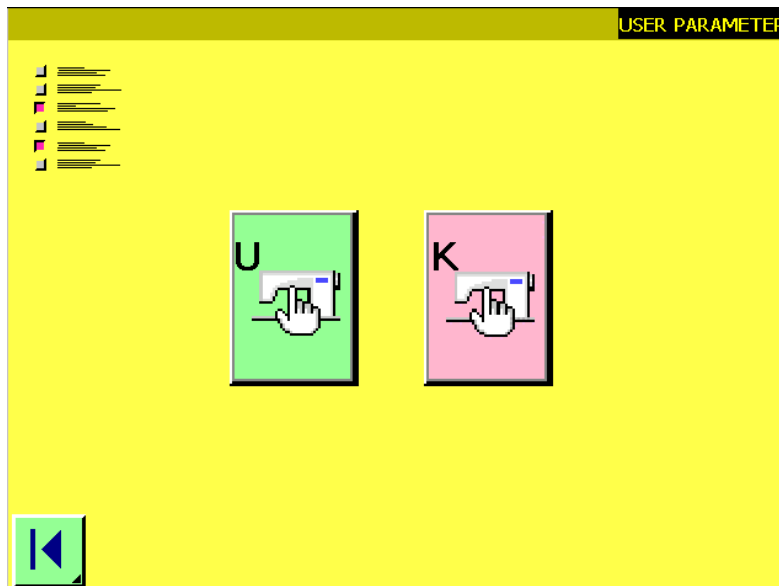

figure 11.1
- 1 Press user parameter button  in main menu screen and the <user parameter> screen is displayed as figure 11.1 shown.